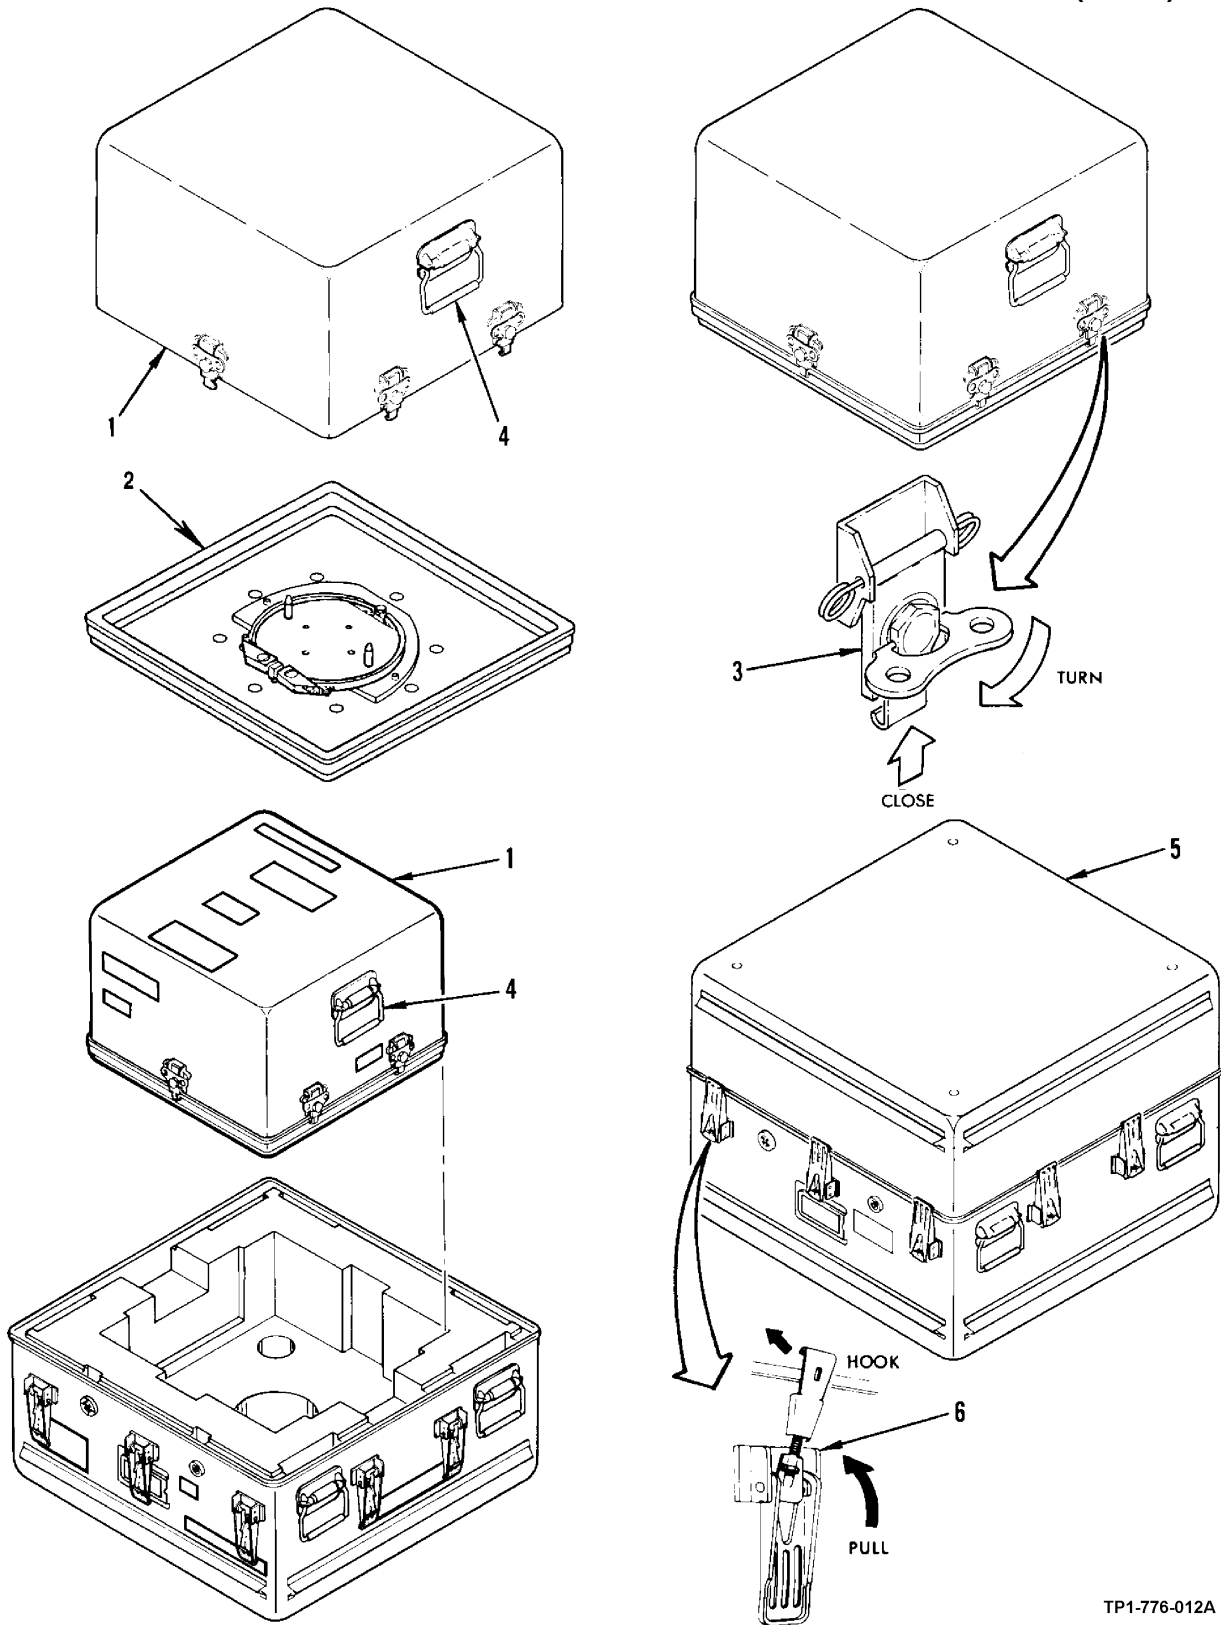

Figure 4-6. Reassembly of Shipping and Storage Container
- (1) Reinstall case assembly (1, figure 4-6) on base assembly (2).
- (2) Engage and lock latches (3).
- (3) Grasp handles (4) of case assembly and place in shipping and storage container.
- (4) Reinstall container cover (5) and close latches (6).